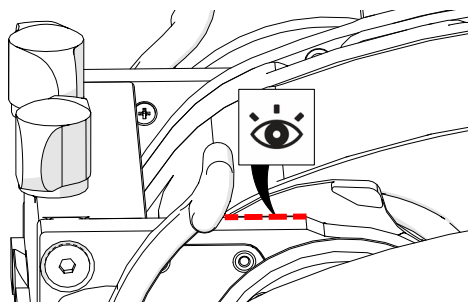

Fig. 212 - Align swivel mount with etched line
7. Ensure the swivel mount of the **NAVIC** is horizontally aligned (Fig. 212) with the etched line on the crawler (see “Swivel Mount” on page 60 for additional details).